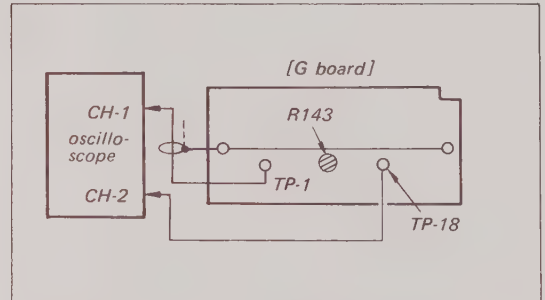

Fig. 8-29. Color killer threshold adjustment test setup
3. Connect the CH-2 probe of the scope to TP-18 on the G board. Set input of scope to DC and sensitivity to 5V/cm. A d-c voltmeter may also be used at this test point. See Fig. 8-29.